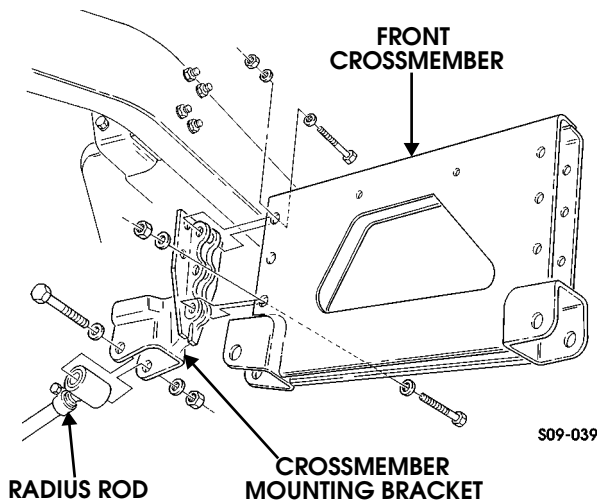

Figure 9-158: Front Crossmember Assembly Replacement
7. Remove two locknuts, washers, bolts, washers, and two radius rods from crossmember mounting brackets (Figure 9-158).
1. Install two crossmember mounting brackets on front crossmember with six washers, bolts, washers, and locknuts. Tighten locknuts to 90 lb-ft (122 N•m) (Figure 9-158).
5. Install brake line on tee and tube coupling (Figure 9-156) and (Figure 9-158).